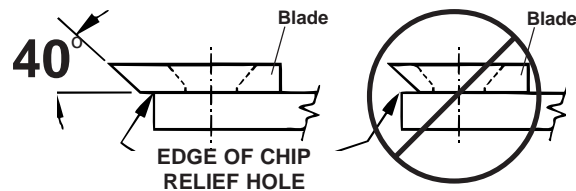

Fig. 5
11. Sharpen blade by lightly grinding the cutting edge of the blade at **40 degrees** (see fig. 5). It is not necessary to remove all nicks from the cutting edge. **CAUTION:** Be careful to avoid heat buildup in the blade during sharpening. This will reduce its heat-treated hardness properties and will reduce blade life. Evidence of too much heat build-up is a change of color along sharpened edge.
12. The same chipper blade can be sharpened several times. However, blade replacement is required when blade no longer overhangs the chip relief hole in impeller back plate or if increased vibration occurs (see fig. 5).